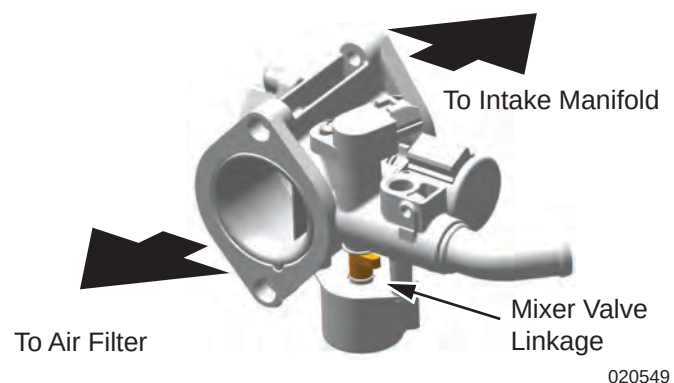

Figure 10-14. External Mixer Valve Linkage
2. See Figure 10-14. While visually observing the external mixer motor linkage, remove and reinstall the 15A fuse from the fuse holder in Wire 13. The mixer linkage should fully sweep then set itself for engine starting.